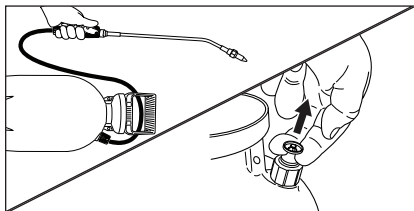

Figure 9. Release Tank Pressure
- 1B. Pull up on the knob of the pressure release valve until all the pressure is released from the tank (if present). See Figure 9.